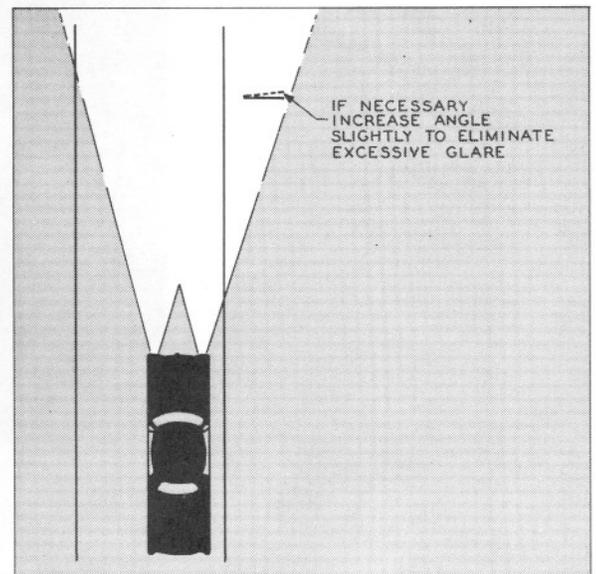

Fig. 20 — KS-16540 Sign — Angle Increased to Eliminate Excessive Glare
- When excessive glare from the face of the sign affects its legibility, turn sign slightly away from road, as shown in Fig. 20.